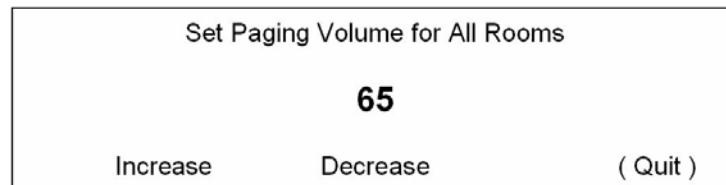

FIG. 37 Set Paging Volume For All Rooms screen
1. Select **Page Volume** to access the *Set Paging Volume For All Rooms* screen (FIG. 37), where the volume level for paging can be adjusted for all rooms.